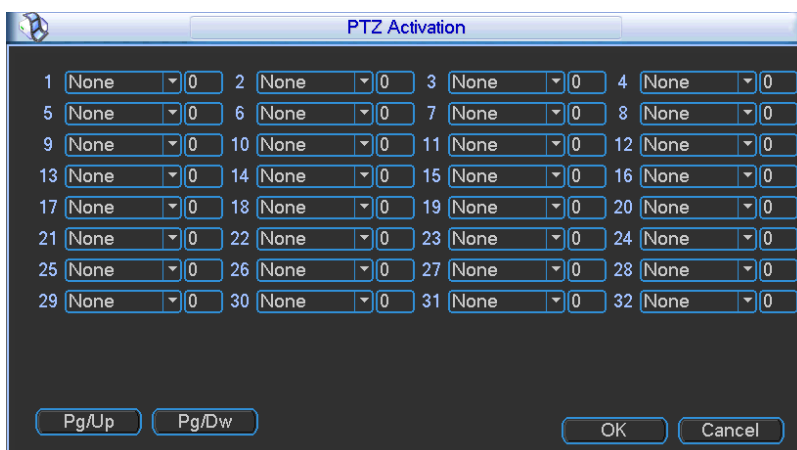

Figure 3-73
- PTZ activation: Here you can set PTZ movement when alarm occurs. Such as go to preset when there is an alarm. Click “select” button, you can see an interface is shown as in Figure 3-73. Click PgUp/PgDn to set more channels.